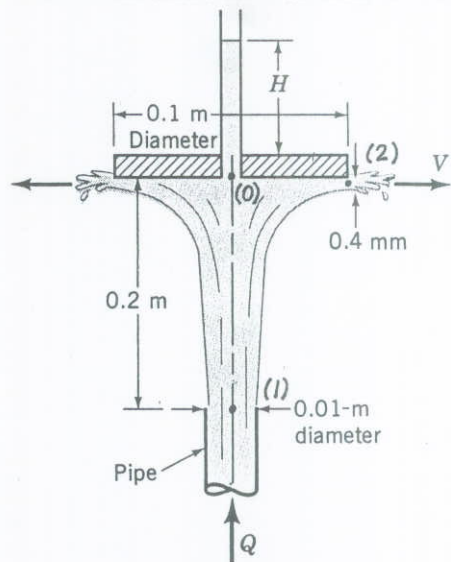

FIGURE P3.96
3.96 Water flows from the pipe shown in Fig. P3.96 as a free jet and strikes a circular flat plate. The flow geometry shown is axisymmetrical. Determine the flowrate and the manometer reading,  $H$ .